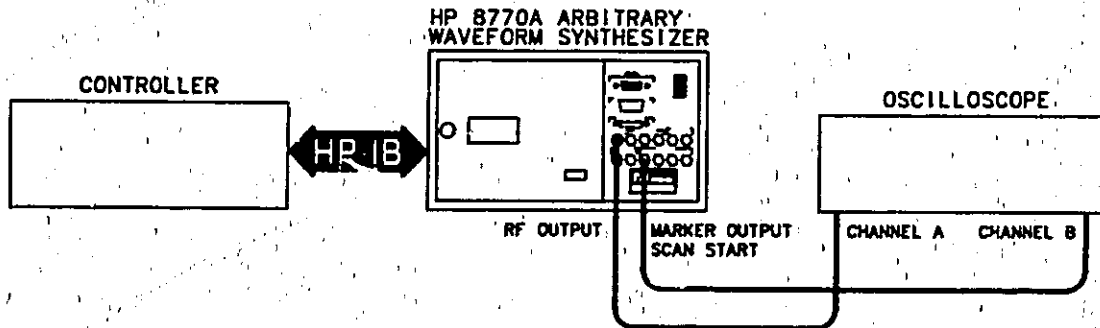

Figure 4-4. Marker Output Test Setup
9. Connect Channel A of the two channel oscilloscope to the Synthesizer's RF OUTPUT. Connect Channel B to the MARKER OUTPUT SCAN START. Refer to Figure 4-4 for test setup.